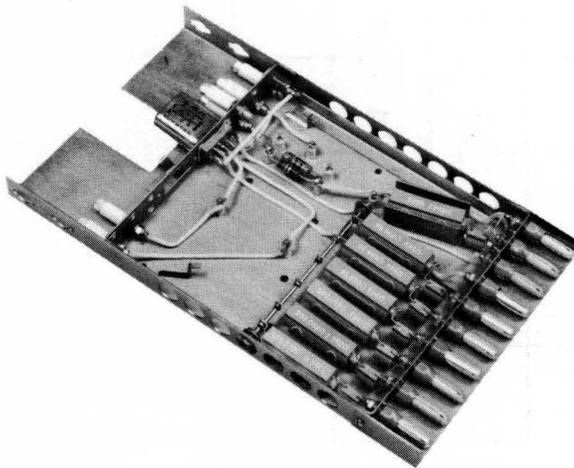
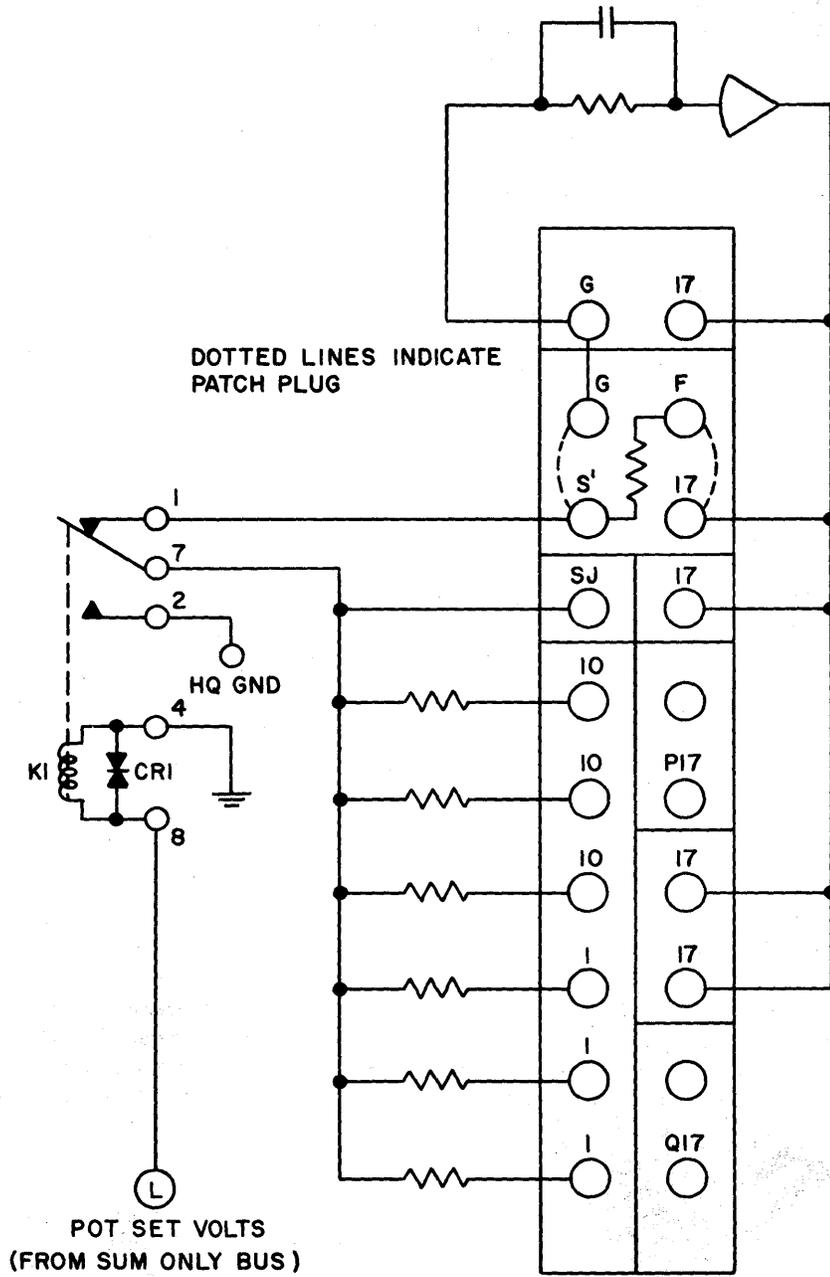

Figure 31. Summing Network 12.003.
Figure 32. Summing Network 12.003, Simplified Schematic.
(2) *Summing Amplifiers.* A Summing Network 12.003 (fig. 31) is provided for use with each of the twelve summing amplifiers in the console. This network contains input and feedback resistors for three gain-of-10 and three gain-of-1 inputs. The network also contains a relay that is used during the Pot Set mode (see fig. 32).